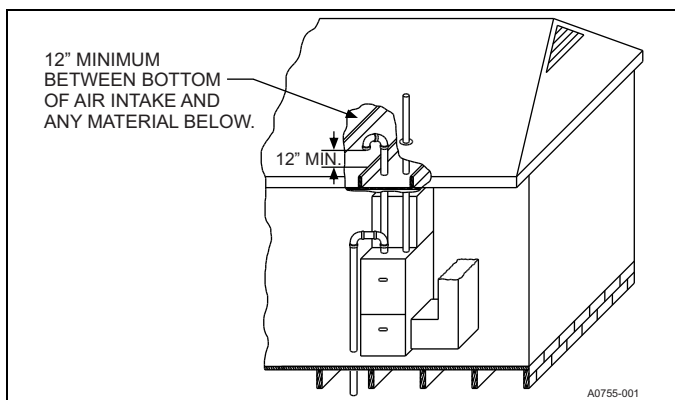

Figure 38: Attic and crawl space combustion air termination
3. **Ventilated combustion air:** Combustion air is supplied through a PVC, CPVC, or ABS pipe that is connected to the coupling attached to the burner box and is terminated in a ventilated attic or crawl space. The combustion air and the vent pipes are not terminated in the same atmospheric zone. See Figure 38 for attic and crawl space termination. Only the combustion air intake may terminate in the attic. The vent must terminate outside.
See Figure 38 for required attic termination for the combustion air intake pipe. For attic termination, use two 90° elbows with the open end in a downward position. Be sure to maintain 12 in. (30.5 cm) clearance above any insulation, flooring, or other material.